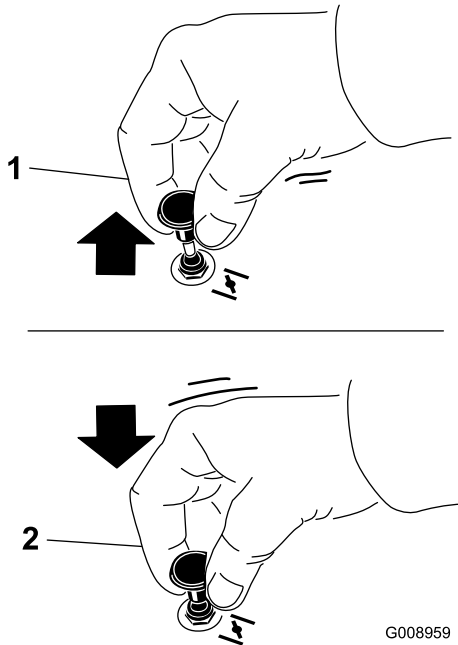

Figure 20
1. Pull up the choke knob to engage the choke before using the key switch (Figure 20).
2. Push down the choke knob to disengage the choke after the engine has started (Figure 20).